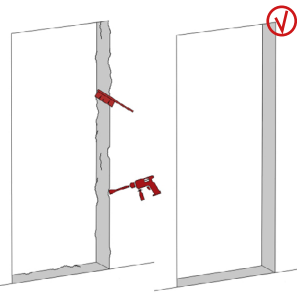

Fig. 5.
2.4. Prepare the door opening (Fig. 5), level it with a perforator and hammer if necessary, clean the installation site of debris. Remove any protruding unevenness from the surface of the opening. Fill defective areas with water-resistant putty. Sags and damages with a height (depth) of more than 10 mm are not allowed on the surface of the opening. The surfaces of the opening with oil contamination should be degreased. Treat crumbling areas with mastic.